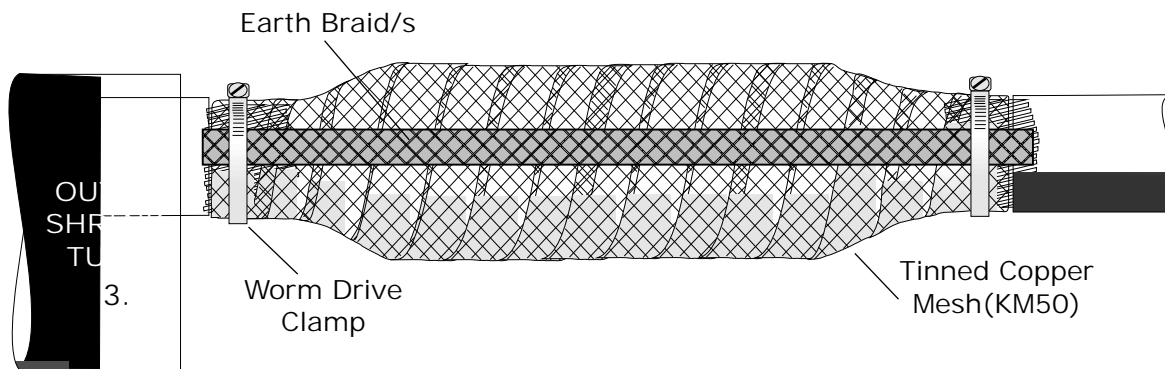

Fig 5
7. Wrap the tinned copper mesh tightly around the joint with 50% overlap and extend onto the armours at both ends. Lay the earth braid/s across the joint and use the worm drive clamps to make a firm connection to the armour support ring as shown in Fig 5.